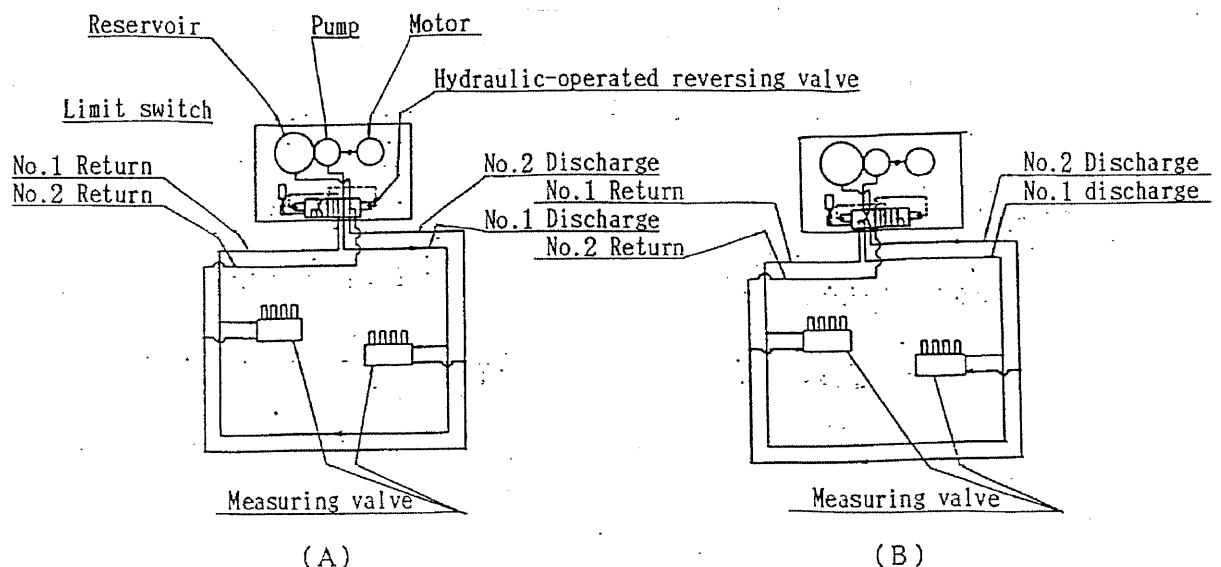

Fig.2 Lubricating circuit
Simultaneously, the limit switch is actuated to stop the lubricating pump. The lubricating cycles described and illustrated in Fig.2 (A) and (B) are alternately repeated until the lubricating operation is completed.